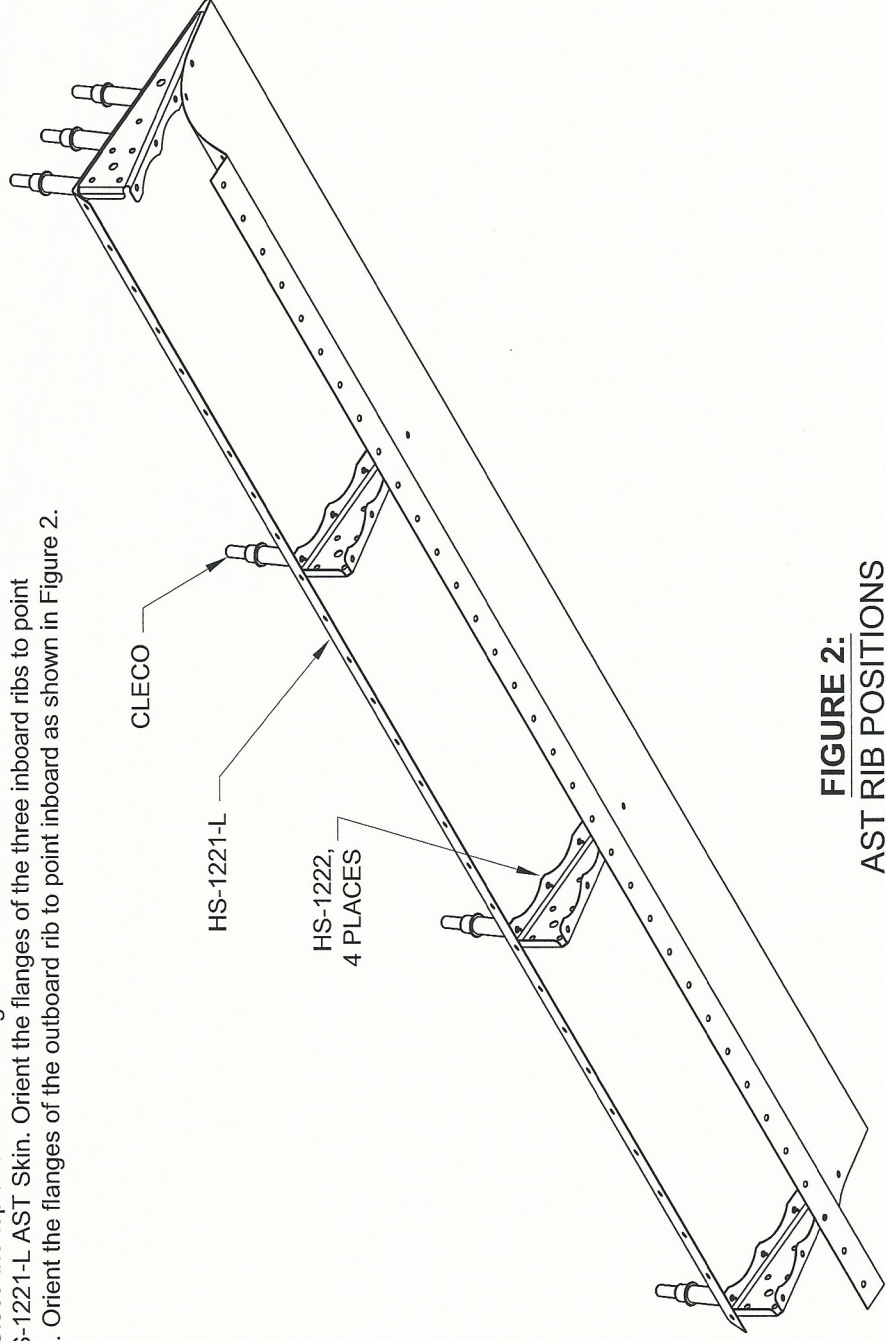

FIGURE 2:
Step 3: Cleco the top and bottom flanges of the four HS-1222 AST Ribs to the inside of the HS-1221-L AST Skin. Orient the flanges of the three inboard ribs to point outboard. Orient the flanges of the outboard rib to point inboard as shown in Figure 2.